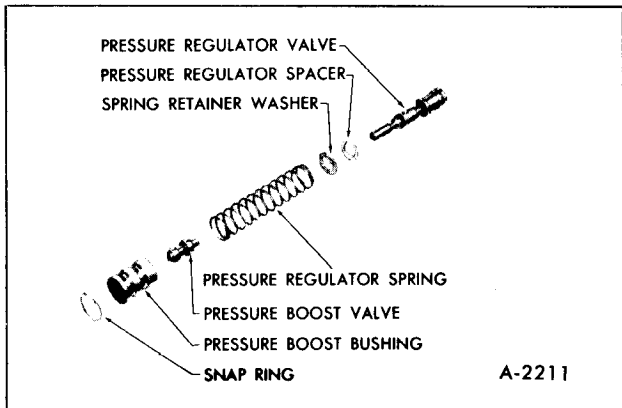

Figure 94—Pressure Regulator Valve
1. Install spring retainer on pressure regulator spring. Also install spacers if previously removed, Figure 94.